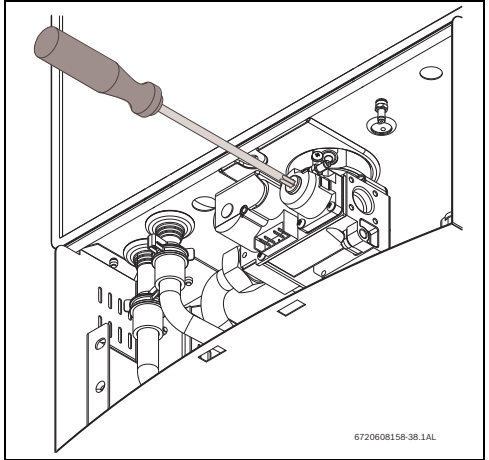

Fig. 62 Adjusting P2 CO2 level
- ▶ Remove yellow painted #40 Torx cover from the front of the gas valve. (Fig. 62) A plastic #40 Torx screw will be revealed.